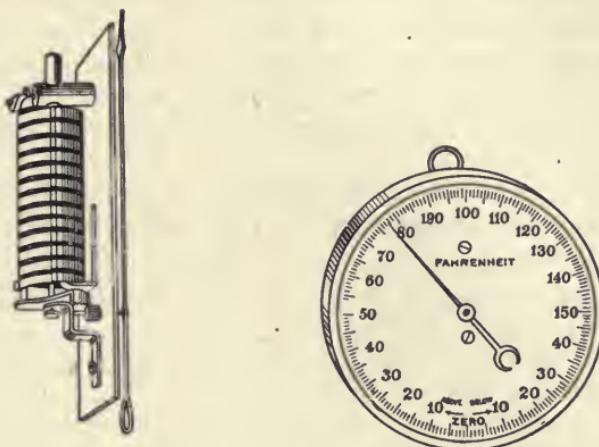

FIG. 129.—Metallic thermometer.
- e. Metallic thermometers depend upon the movement due to the expansion of a coiled strip of metal which turns a pointer on the dial of the instrument. (See Fig. 129.)